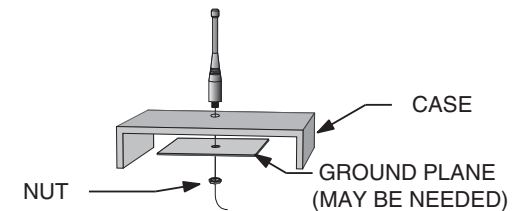

Figure 27: Remote Ground Plane
6. In some applications, it is advantageous to place the module and antenna away from the main equipment (Figure 27). This can avoid interference problems and allows the antenna to be oriented for optimum performance. Always use 50Ω coax, like RG-174, for the remote feed.